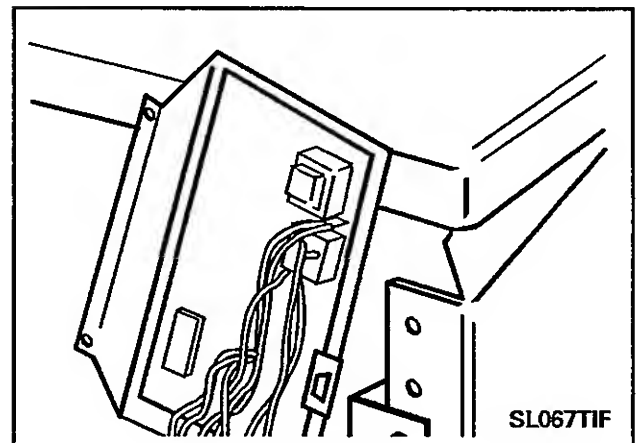

Figure 9-9
8. Rotate the assembly and position the slot in the backside of the mounting bracket with the protruding flange of the the upper right top cover to the cabinet bracket (Figure 9-9).